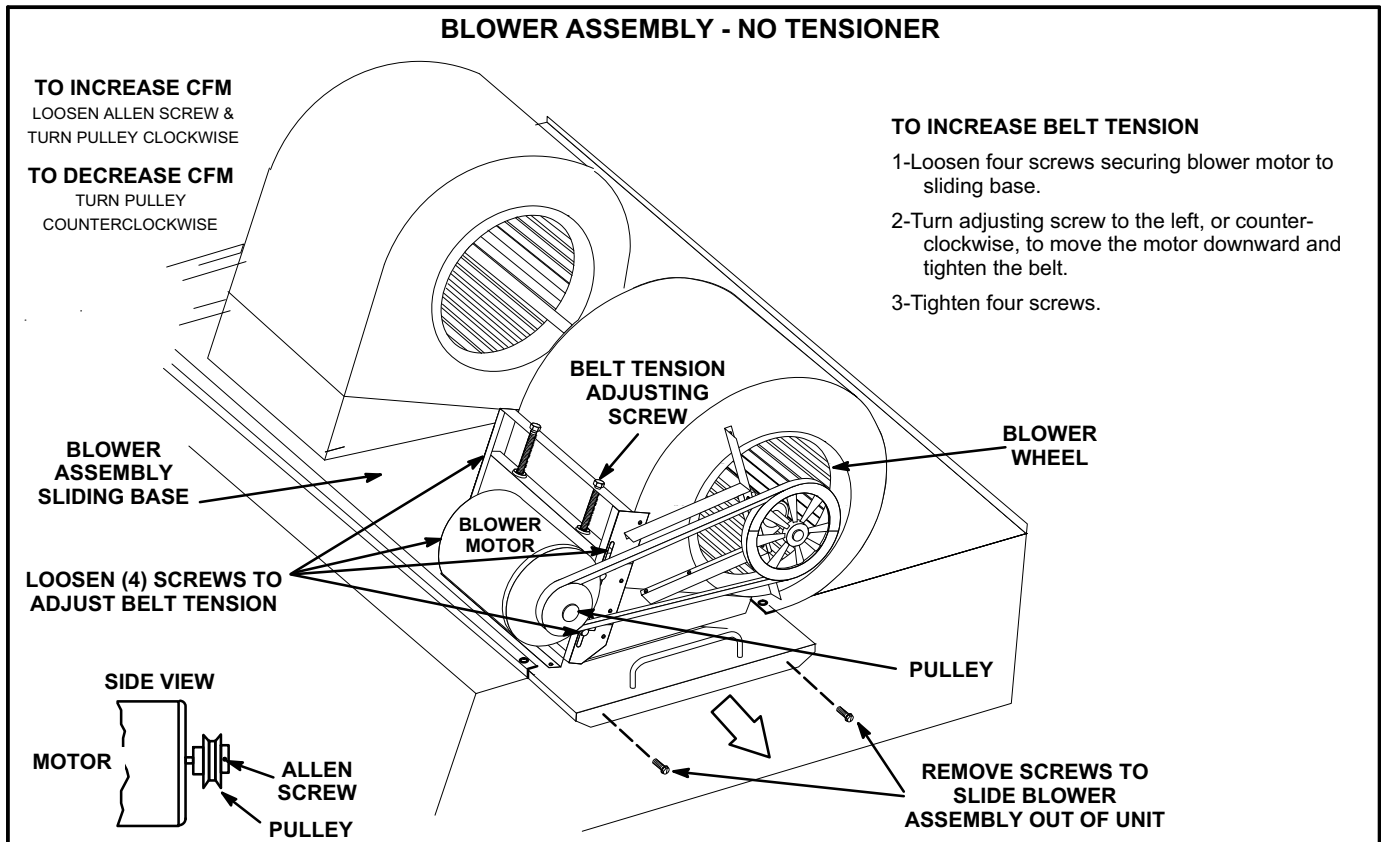

FIGURE 15
- 2- Remove screws on either side of blower assembly sliding base. See figure 15.
- 4- The blower RPM can be adjusted at the motor pulley. Loosen Allen screw and turn adjustable pulley clockwise to increase CFM. Turn counterclockwise to decrease CFM. See figure 15. Do not exceed minimum and maximum number of pulley turns as shown in table 3.
- 1- Loosen four screws securing blower motor to sliding base. See figure 15.